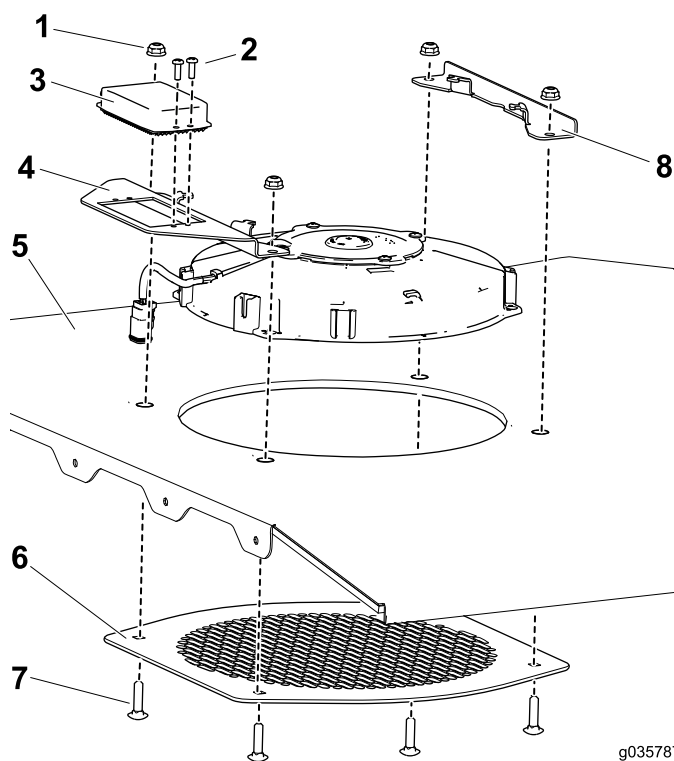

Figure 2
1. Use the 2 screws (#8 x 3/8 inch) to secure the resistor pack to the fan mounting (Figure 2).
2. Use the 4 bolts (1/4 x 1 inch) and 4 nuts to secure the fan, fan grill, fan bracket, and mounting bracket to the ceiling plate (Figure 2).